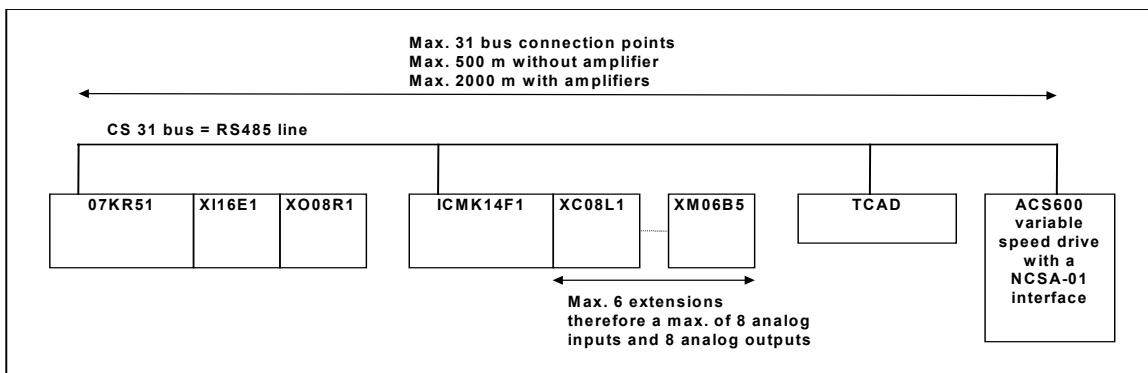

Figure 1-2 : Central unit with extensions and CS 31 bus
- Or any other device which disposes of a CS 31 communication (see Figure 1-2).